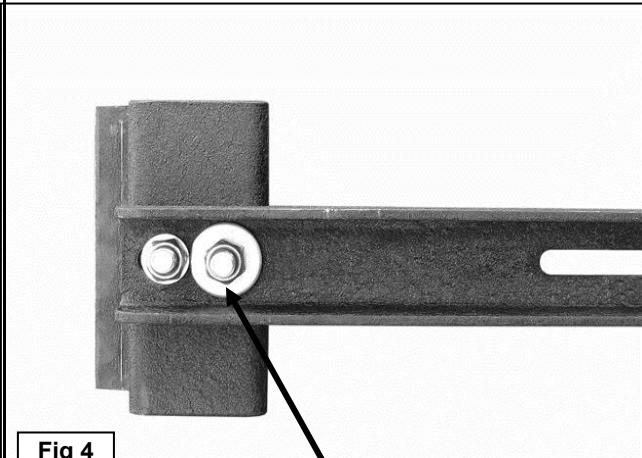

Fig 4
3. Select (1) center Mounting Bracket, Clamp and Arm. Bolt the Arm to the bottom of the center Bracket with (2) 8mm Carriage Bolts, (1) 8mm x 22mm Large Flat Washer (outer), (1) 8mm x 16mm STD Flat Washer (inner), and (2) 8mm Nylon Lock Nuts, **(Figure 4)**.